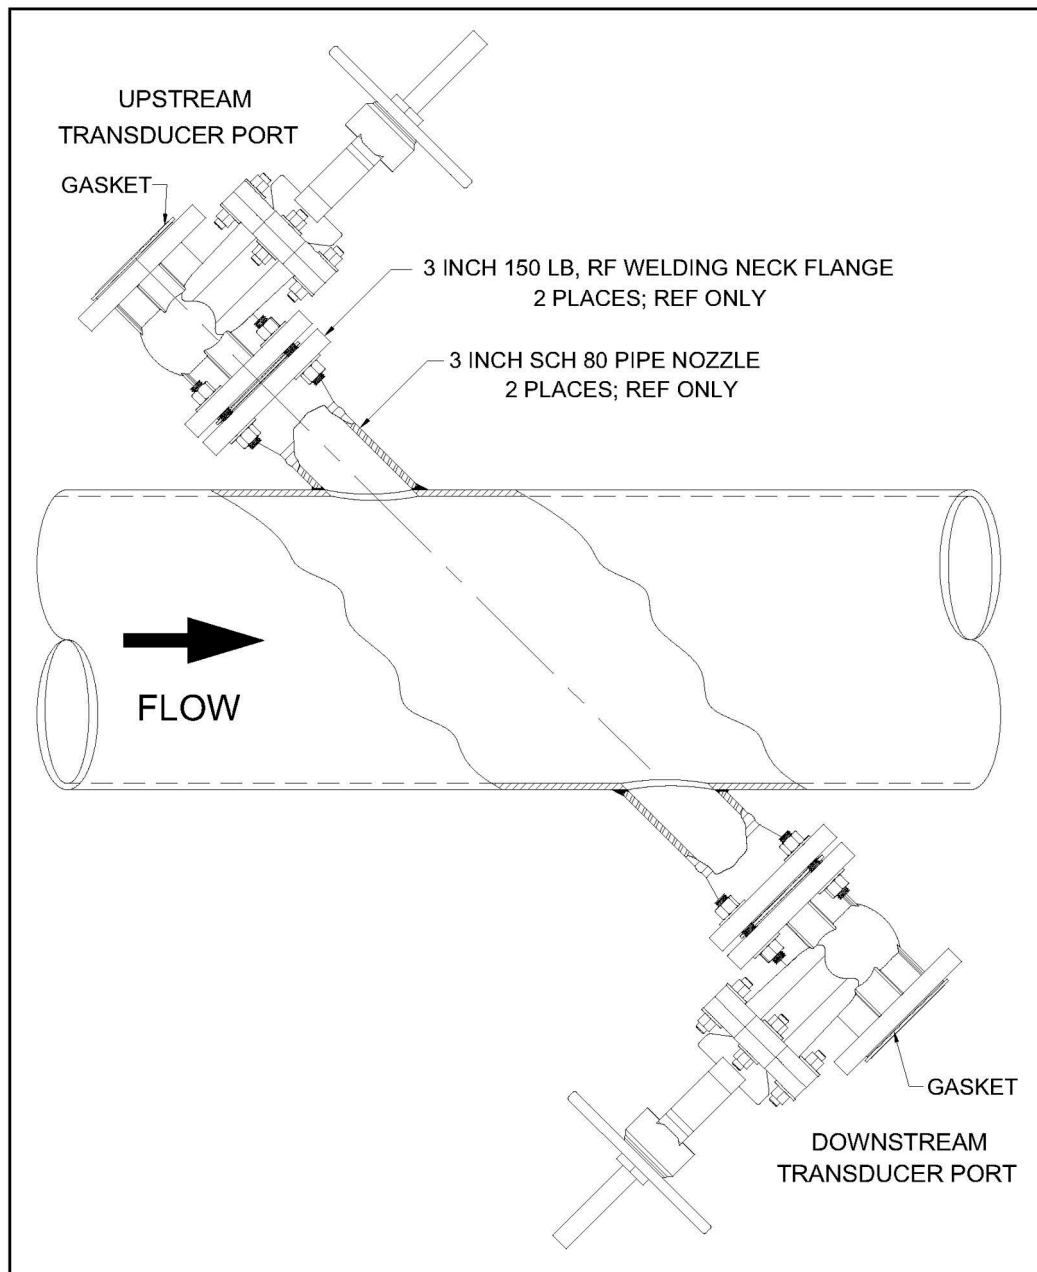

Figure 14: Standard Velocity Range Assembly
2. Check and make sure the isolation valves are securely installed with gaskets and hardware. Then, place a gasket on the face of each isolation valve (see either Figure 14 below or Figure 15 on page 48).